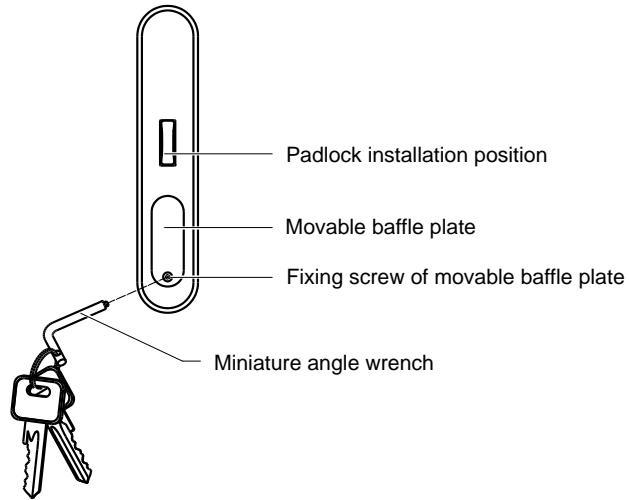

Figure 2-13 Position of movable baffle plate
1. Loosen the movable baffle plate of the key hole by using a miniature angle wrench attached to a key string (see Figure 2-13), and remove the baffle plate to expose the key hole.
6. Rotate the movable baffle plate upward and cover it over the keyhole after the cabinet door is closed, as shown in Figure 2-13.
7. Tighten the fixing screw of the movable baffle plate to lock the door. Then the door is locked. If necessary, you can install a padlock at the padlock installation position (see Figure 2-13).